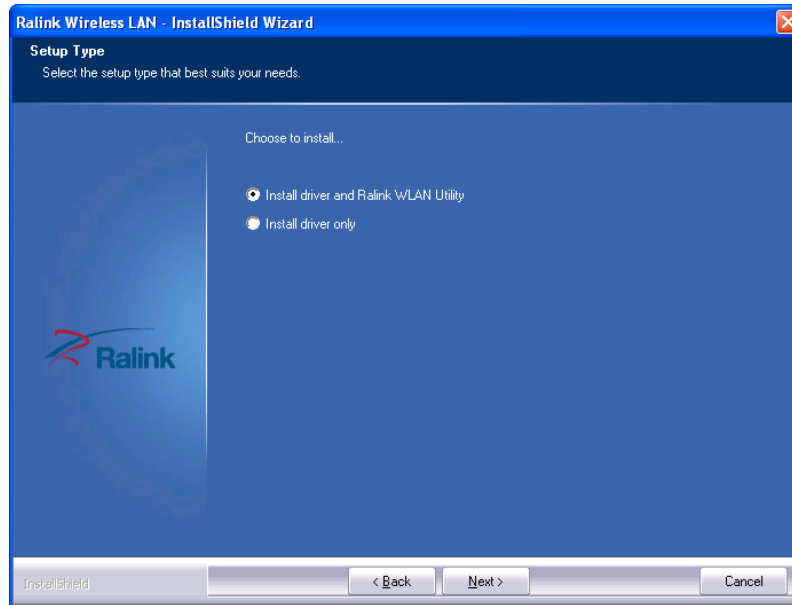

Figure 5-33: Setup Type
Step 5: The **Setup Type** screen in **Figure 5-33** appears.